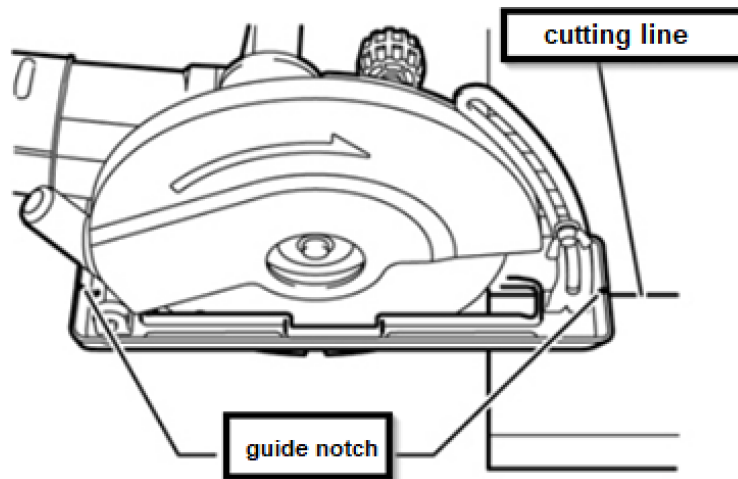

Fig. 11
-After work, turn off the tool and wait until the disc has come to a complete stop before placing the tool on the ground. When cutting concrete blocks, tiles, or masonry, do not make cuts deeper than 60 mm. If you need to cut a workpiece between 60 mm and 100 mm thick, make two cuts. The most effective cutting depth is approximately 40 mm. Hold the tool firmly with both hands. First, hold the blade so that it does not touch the workpiece being cut. Then, turn on the tool and wait until the blade reaches full speed. Make the cut by pulling the tool toward you (not pushing it away from you). When making the cut, align the notch in the base with the cutting line. (Fig. 11)